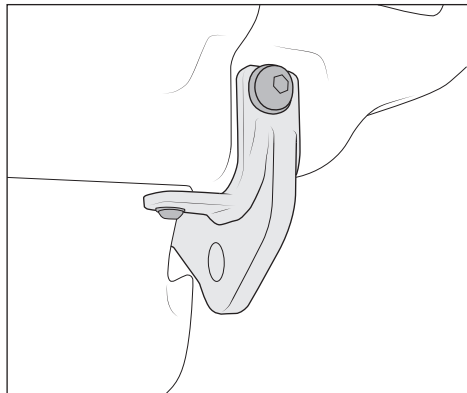

Figure 32
2. Install black M8x25mm button head bolts with washer through the lower tab in the tow loop, through the skidplate, and into the center section U-nut (fig. 32).